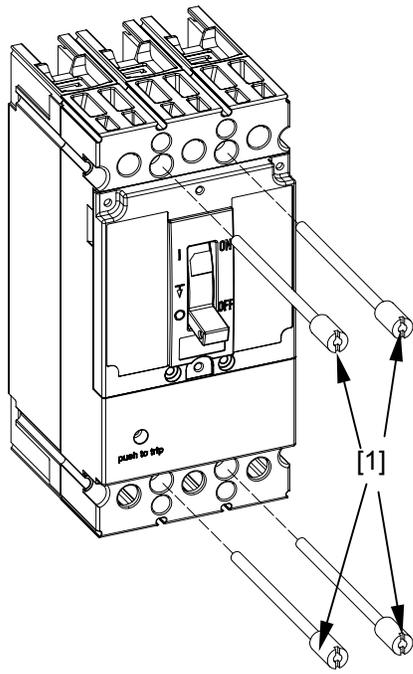

Figure 3. Mounting the breaker in the enclosure.
2. Mount the breaker to the enclosure with the # 8-32 x 2.81" screws [1], as illustrated in Figure 3. Tighten the screws to 16 - 20 in-lb. Complete the installation of the circuit breaker according to installation instructions DEH40463.